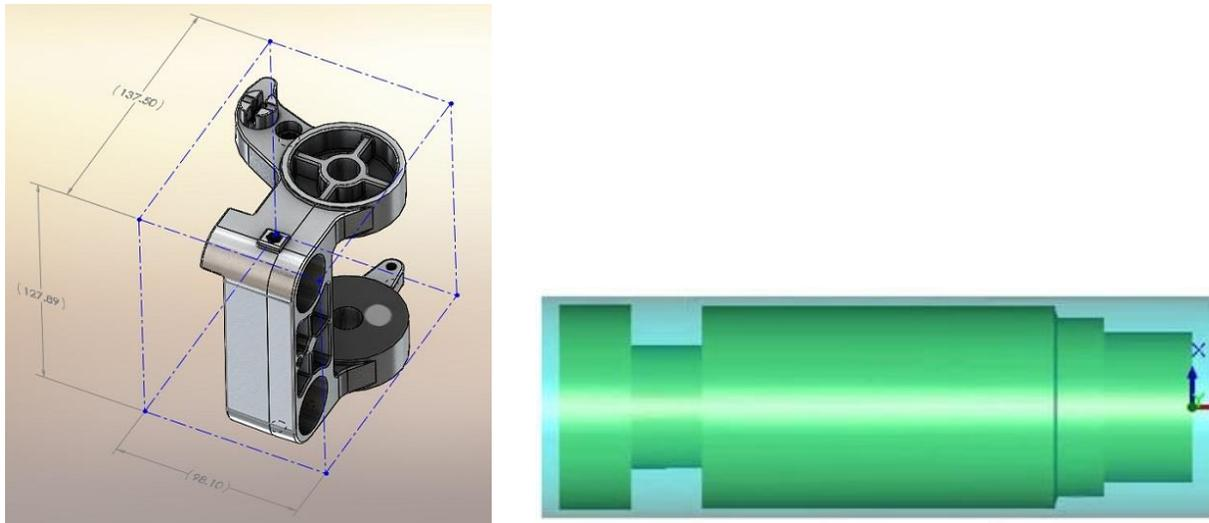

Figure 10: Selecting a Part by Bounding Box (Left) and Bounding Cylinder (Right)
1. By using the bounding box or bounding cylinder as shown in Figure 10.